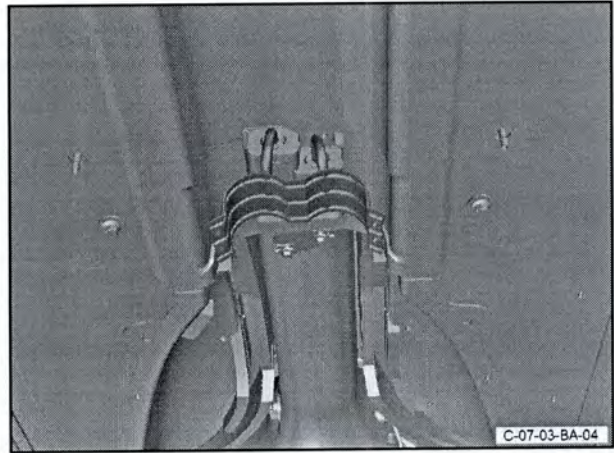

Figure 9
16. Remove the exhaust centre brace assembly (refer to Figure 9).